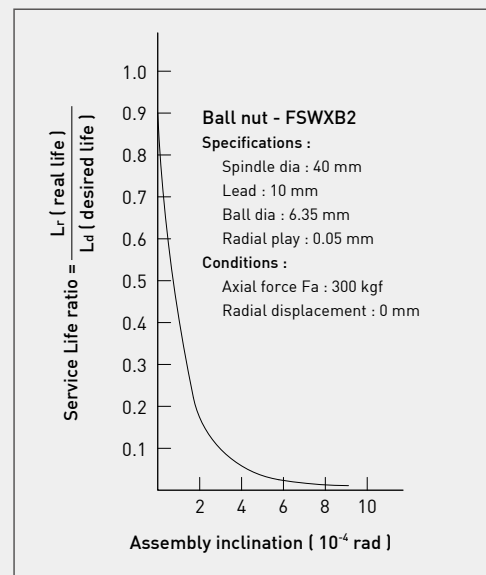

Fig 4.3(b) The effect on service life of a radial load caused by misalignment
- (3) To achieve the ballscrews' maximum life, the use of antifriction bearing oil is recommended. Oil with graphite and MoS₂ additives must not be used. The oil should be maintained over the balls and the balltracks.
- (4) Oil mist baths or drip feeds are acceptable. However, direct application to the ball nut is recommended (Fig. 4.3).